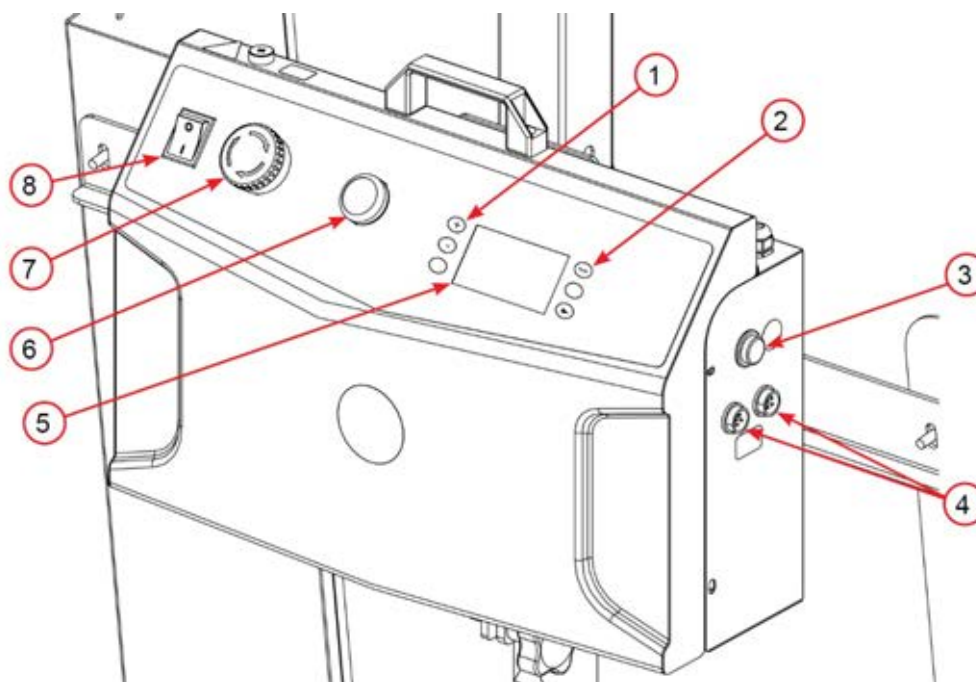

Figure 12 Dispenser Controls
5. Push the **Reset Button** (refer to Figure 12).
6. Select the preferred **Dispenser Mode** by switching the **Mode Selector Switch** to the **[I]** or **[II]** position (refer to Figure 12).